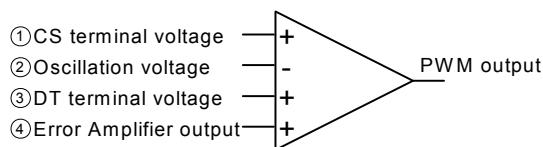
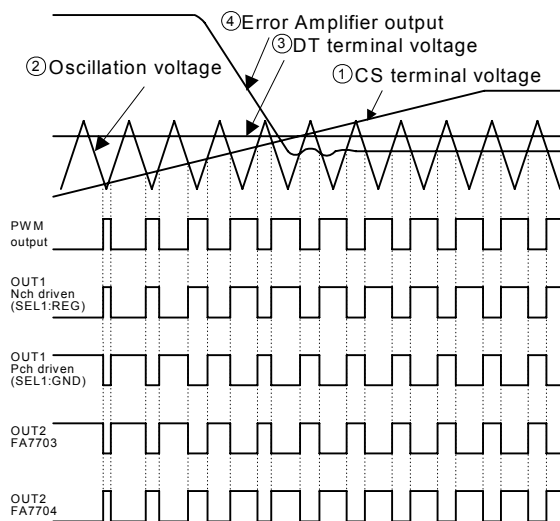
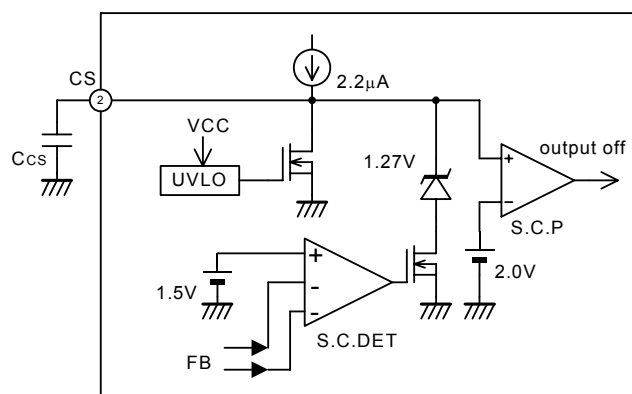

Fig.4
Fig.5
Fig.6
(4) PWM comparator
PWM comparator of FA7703/04 has 4 input terminals. (Fig. 4) The oscillator output ② is compared with the CS terminal voltage ①, the DT terminal voltage ③, and the Error Amplifier output ④. Among those 3 inputs of ①, ③, and ④, the one with the lowest voltage is chosen and given priority. While the value of the chosen voltage is lower than the value of the waveform of oscillator output, PWM comparator output is set to LOW. Similarly, while the value of the chosen voltage is higher than the waveform of oscillator output, PWM comparator output is set to HIGH. (Fig. 5)
When FA7703/04 are turning ON, the soft start function starts according to the CS terminal voltage ①, then the output pulses begin to widen gradually. The maximum pulse width is adjusted by changing the DT terminal voltage. In steady operation, the pulse width is determined with the condition of the Error Amplifier output ④, and then the output voltage of DC-DC converter is stabilized. The operation flow chart of PWM comparator and OUT terminal is shown in Fig. 5. The output polarity of OUT1 terminal changes according to the condition of SEL1 terminal. The polarity of OUT 2 terminal is different between FA7703 and FA7704; accordingly, select the type for your desired circuit design.
As described in Fig. 6, a capacitor C_{CS} is connected to CS terminal. When the power supply of FA7703/04 starts and the undervoltage lockout protection circuit (UVLO) is cancelled, the capacitor C_{CS} is charged by the internal current source ($2.2\mu A$, typ.), and the voltage of CS terminal rises gradually. Since the voltage of CS terminal is connected to PWM comparator, the output pulses begin to widen gradually, and then the soft start function starts as a result. (Fig. 5)